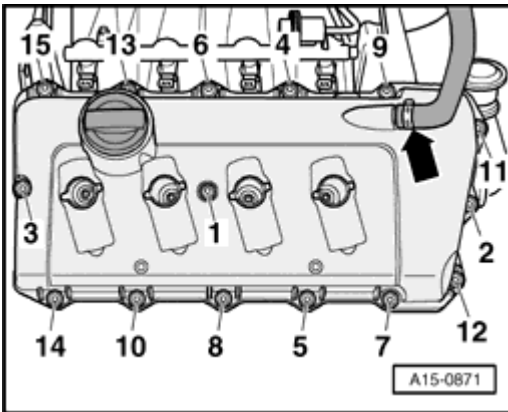

Fig. 317: Tightening Cylinder Head Cover In Sequence
- Observe sequence for tightening --> **Fig. 317**